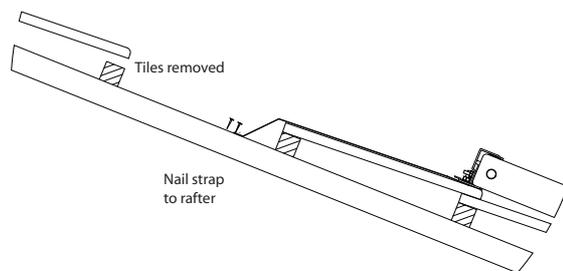

Figure 13 - Attach Mounting Straps
- Attach the collector mounting straps to the rafter or truss under the tiles as shown in **Figure 13**.